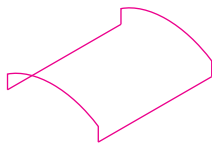

Fig. 17.28 Example – Edgesurf adding lines joining the plines
7. With the **Line** tool, draw lines between the ends of the two plines using the **endpoint** osnap (Fig. 17.28). Note that if polylines are drawn they will not be accurate at this stage.